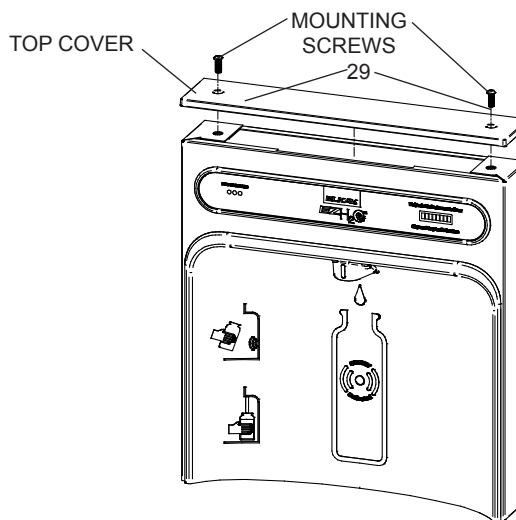

Fig. 5
- 1) Remove two (2) mounting screws with 5/32" Allen wrench holding top cover to Bottle Filler (See Fig. 5). Remove top cover. Note do not discard mounting screws, they will be needed to reinstall top cover.
- 11) Once Bottle Filler is installed on wall plate tabs, water line, wire(s) and power cord are installed properly, push top of Bottle Filler toward wall and line up top cover two (2) holes.
- 12) Reinstall Top Cover on Bottle Filler (See Fig. 5) with two mounting screws from step 1 above. Caution, do not over tighten screws.